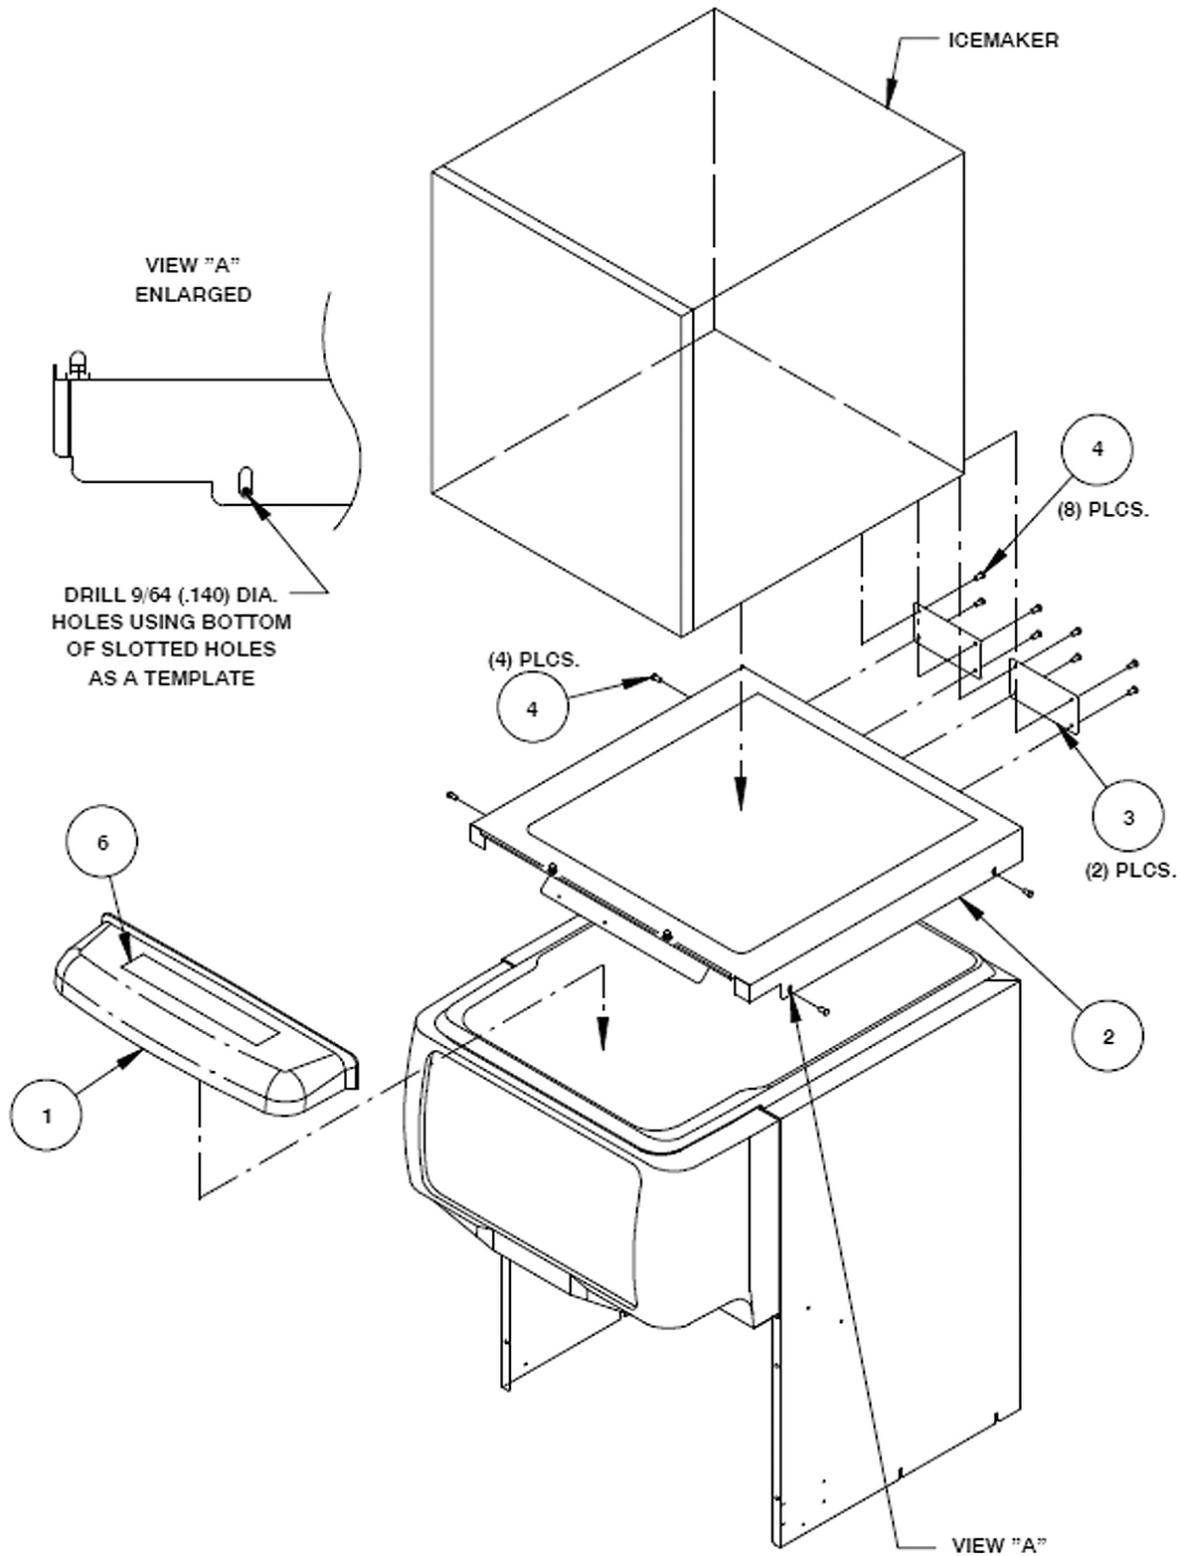
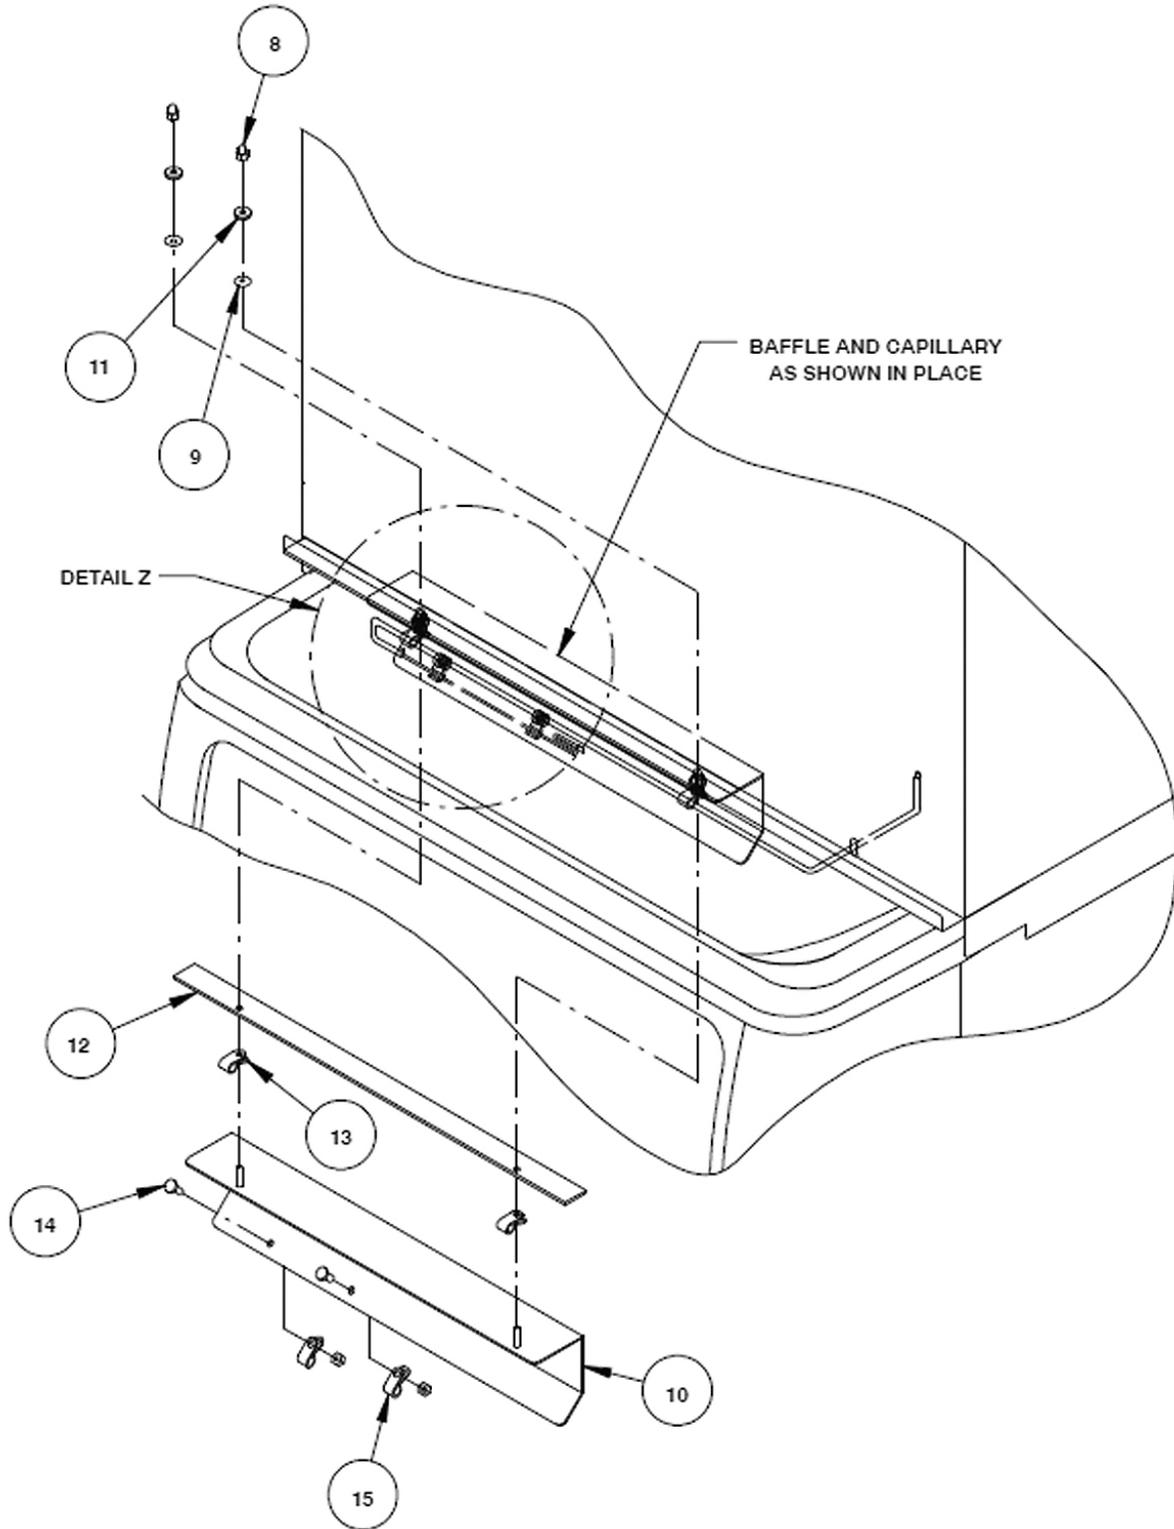
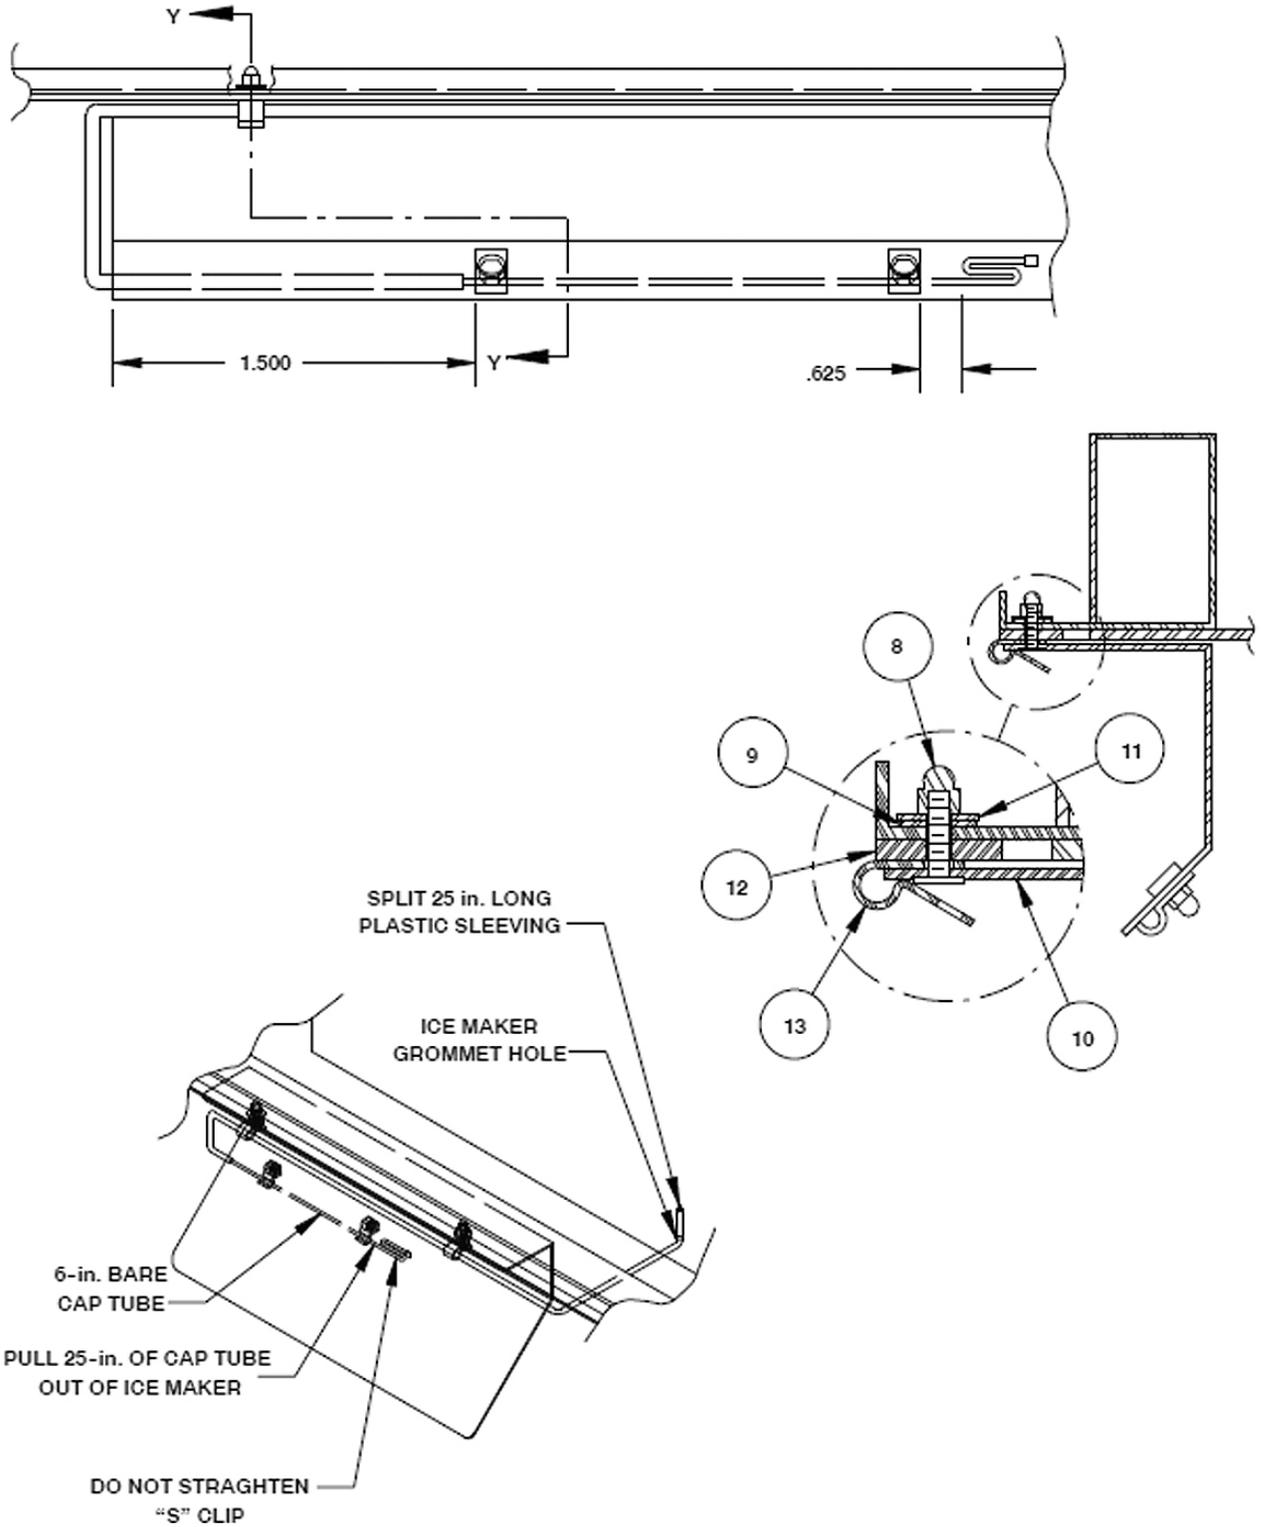

Figure 1. Dispenser Assembly
Figure 2. DF150-8V Baffle Kit
Figure 3. DF150-8V Capillary Tube Location
3. Place two (2) sealing cap washers (item 9) over studs and two (2) nylon washers (item 11), then fasten in place with two (2) acorn nuts (item 8).
5. Using the slotted holes in the lid as a template, drill four (4) 0.140" diameter (9/64") holes at the bottom of the slots (see Detail A of Figure 1). **Use extreme care not to drill into the hopper.** Fasten the lid to the dispenser with four (4) #8 sheet metal screws, two on each side.
8. Mount the bin stat kit (item 17) as instructed except for the bin stat capillary tube mounting.
9. Pull 32-inches of capillary tube out of bottom of the ice maker. Slit and place VINYL TUBING (item 16) over the capillary tube leaving 6-inches of bare capillary tube exposed between capillary "S" bend and vinyl tubing.
10. Assemble two (2) nylon clamps (item 15) to the back side of the ice baffle (item 10) with two (2) screws (item 14) and acorn nuts (item 8). *Do not overtighten.*
11. Route capillary tube around baffle as shown in Figure 2 and Figure 3.
12. Position two (2) nylon clamps (item 15) on studs of ice baffle (item 10) and two (2) nylon washers (item 11) on studs as shown.
14. Place two (2) sealing washers (item 9) over studs and fasten in place with four (2) acorn nuts (item 8).
15. Route and form capillary as shown in Figure 2 and Figure 3. Tighten two (2) plastic clamps (8-32 X 3/8-in. screws) to hold capillary tube in place.